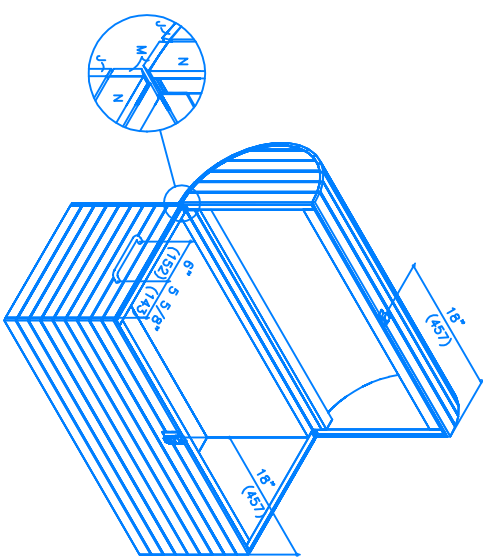
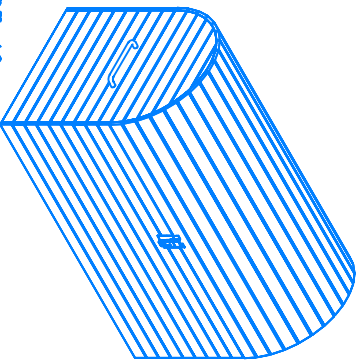

FIGURE 9
FIGURE 10
- With the lid closed, see (Fig 10), attach the clasp to top and bottom with supplied clasp hardware. Do not carry handles now, see (Fig 9 & 10). The clasp hardware and door hinges are supplied with metal handles 1/2" smaller than the manufacturer's supplied mounting screws. Install handles by screwing through from inside of pieces E into carry handles.